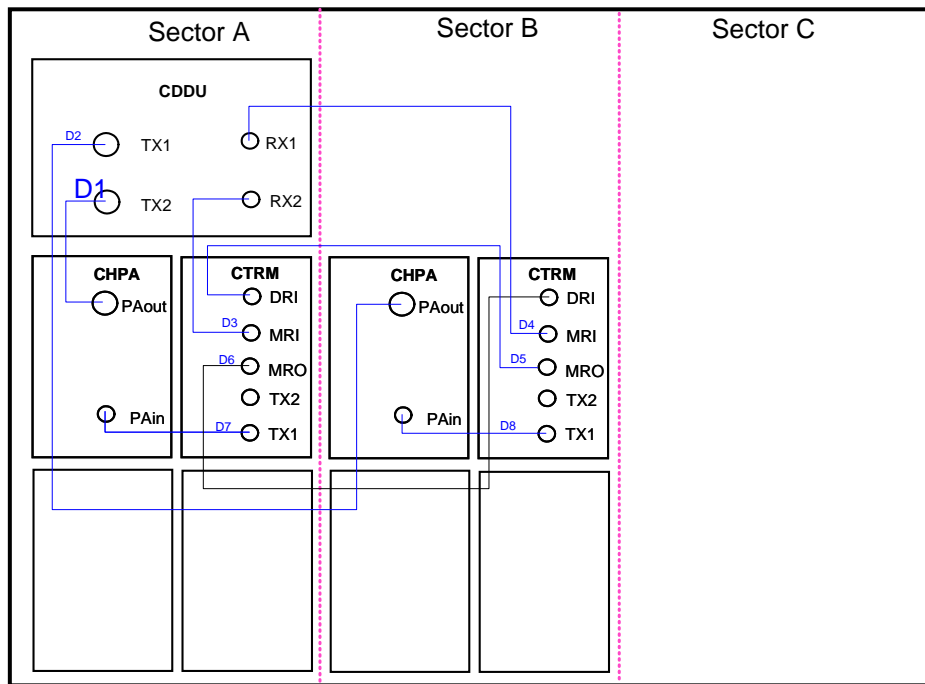

Figure 4-2 O(2) configuration
The O(2) refers to an omni cell with two carriers. Figure 4-2 shows RF cable connections, indicated by blue lines.